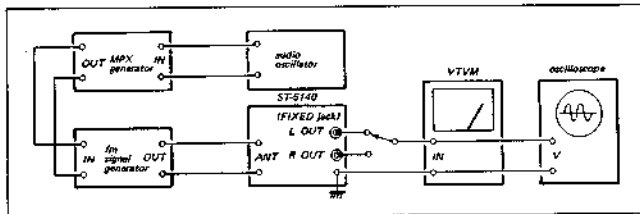

Fig. 3-9. Fm stereo separation adjustment test setup
2. Precisely tune the set to the SSG's carrier frequency, then turn the top core of switching transformer T401 (see Fig. 3-9) to obtain maximum output at the left channel. Note that this adjustment has a close relationship with stereo distortion.
- The output-level to residual-level ratio represents the separation. Adjust separation adj control RT401 (see Fig 3-9) for minimum residual level. Check the right channel for separation. Usually, about an 8 to 9 dB difference in channel separation exists. Re-adjust RT401 for minimum difference between left- and right-channel separation. While doing this, remember that the output level also changes according to the setting of RT401.